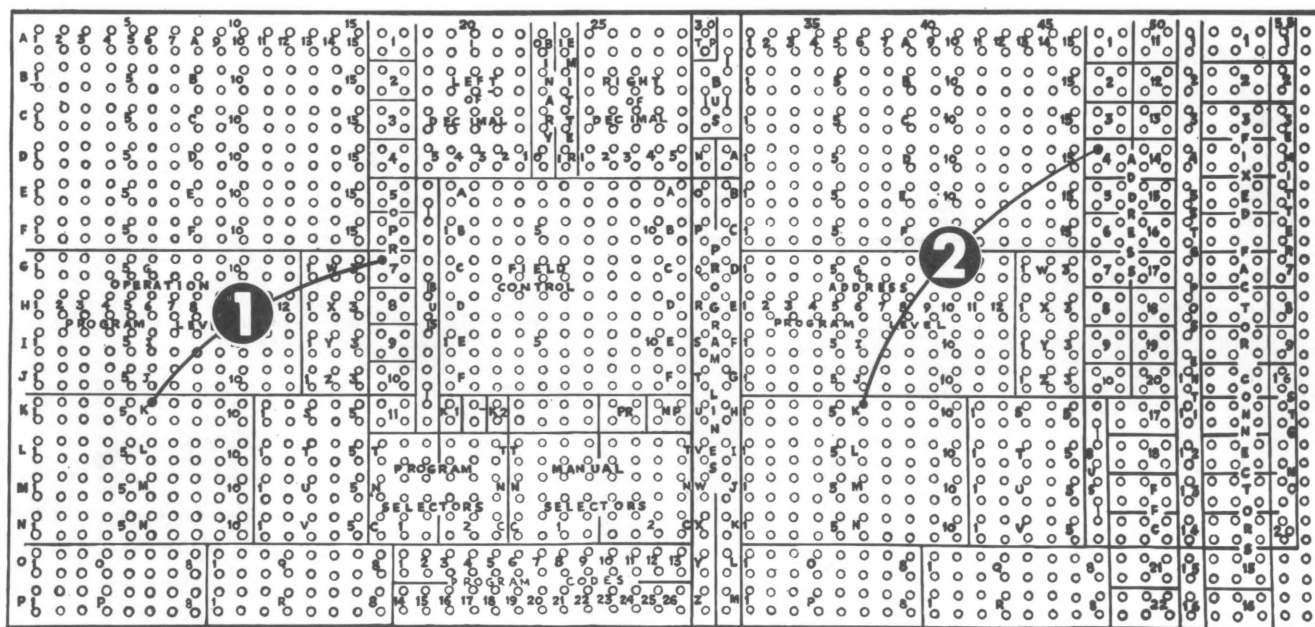

Figure 23. Sample Instruction Wiring - 6010 Program Panel.
For example, in order for the Friden 6010 Electronic Computer to perform instruction 7/4 on the sixth step of program line K, hubs must be wired as follows: K6 to G16 ① and K37 to D47 ② (see figure 23).